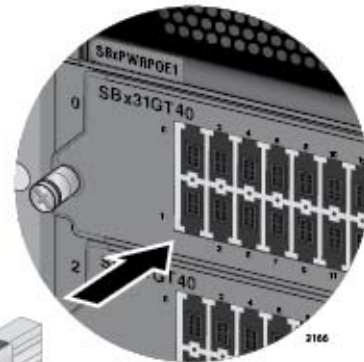

Figure 99. Connecting Cables to Ports on the AT-SBx31GT40 Line Card
- ❑ To connect a cable to a port in the top role on the line card, orient the connector with the release tab on top. To connect a cable to a port in the bottom role, orient the connector with the release tab on the bottom. Refer to Figure 99 on page 160.